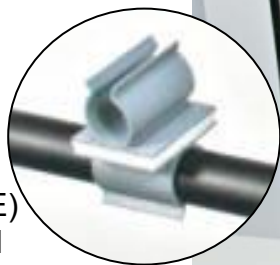

Fig. 5
Step 3: (see Fig. 5) Attach the Microphone Clips (E) as appropriate for the intended sound field measurement application; Set the required spacing using a scale.